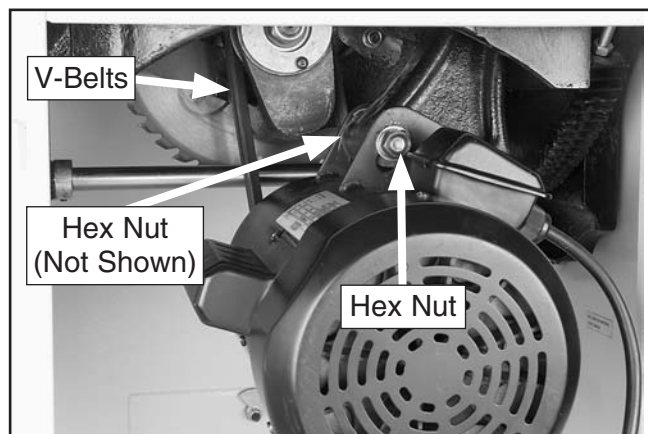

Figure 126. Motor mounting nut.
3. Loosen the hex nuts on the motor shown in **Figure 126**, and pivot the motor up and down to make sure that it is movable.
3. Loosen the hex nuts that secure the motor (see **Figure 126**) and raise the motor fully to remove tension on the V-belts. Roll the V-belts off of the arbor and motor pulleys.